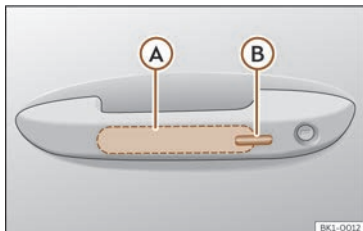

Fig. 73 Door handle: sensor surfaces.
- Touch the sensor surface on the inside of the handle >>> **Fig. 73 (A)**. All turn signals flash twice.
- Touch the sensor surface **(B)** >>> **Fig. 73** on the outside of the door handle. All turn signals flash once.
- Within 5 seconds, touch the sensor on the outside of the door handle once >>> **Fig. 73** . Do not grip the handle while doing so. This temporarily deactivates the Keyless Access system.